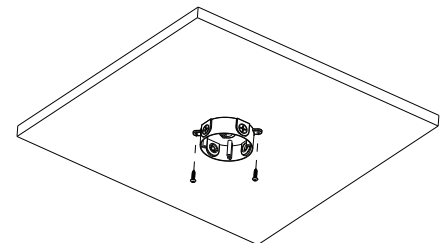

Fig. 2
4. Secure the round base junction box to the ceiling with screws (see **Fig. 2**).